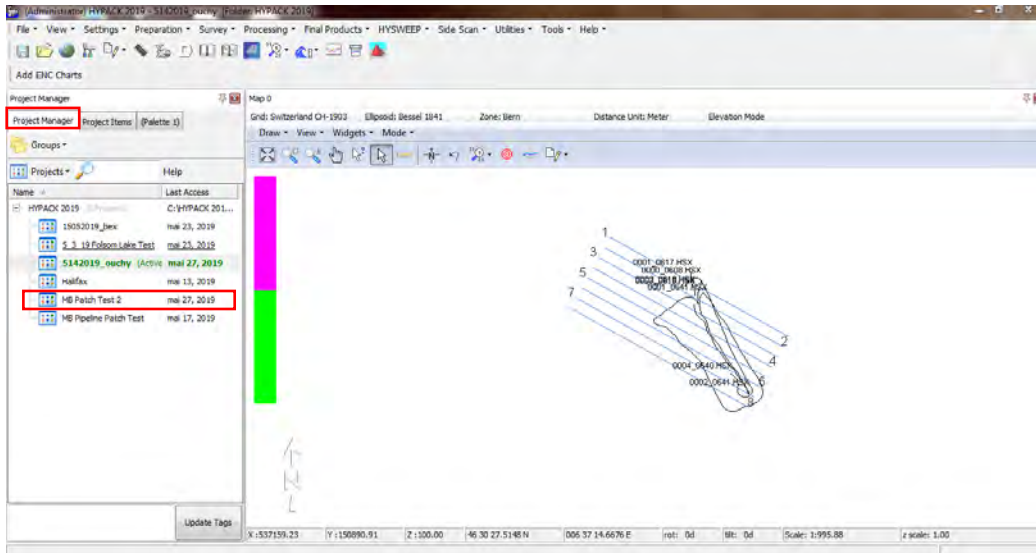

Figure 52: Determination of the project on HyPACK
5. Open the project that you want to work on (Figure 52)